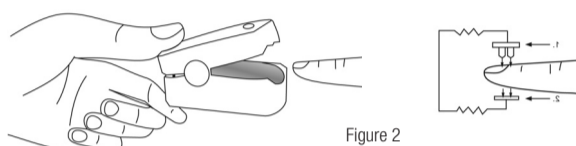

Figure 2
- Squeeze the end opposite the power switch between the thumb and forefinger in order to open the device. There is a textured surface on the battery cover side to facilitate grip. (Figure 2)
- Remove the patient's finger from the device by squeezing between forefinger and thumb as indicated in Figure 2.